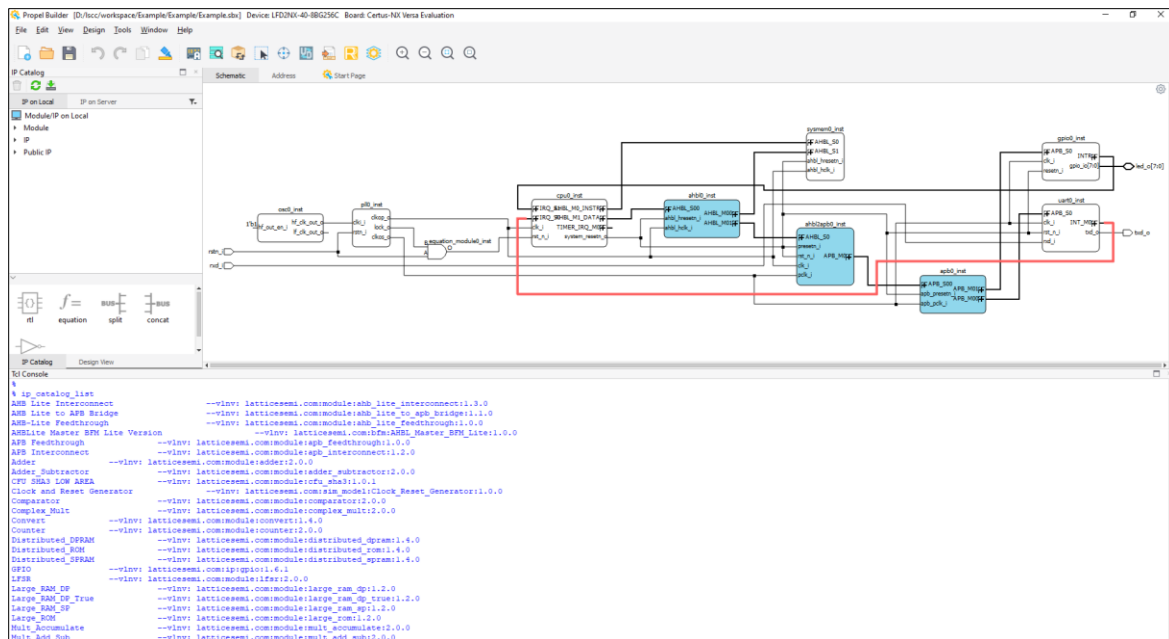

Figure 5.3. IP Catalog List Command
- Or you can check all IPs by typing the following command in TCL console (Figure 5.3):